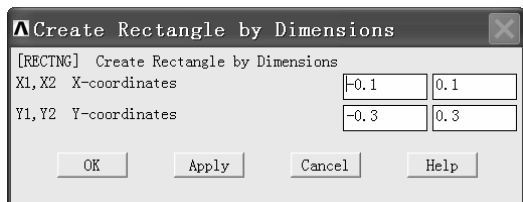

图 2-74 “Create Rectangle by Dimensions”窗口
(1) 依次选择 Main Menu>Preprocessor>Modeling>Create>Areas>Rectangle>By Dimensions, 弹出 “Create Rectangle by Dimensions” 窗口（见图 2-74）。在 “X1, X2 X-coordinates”